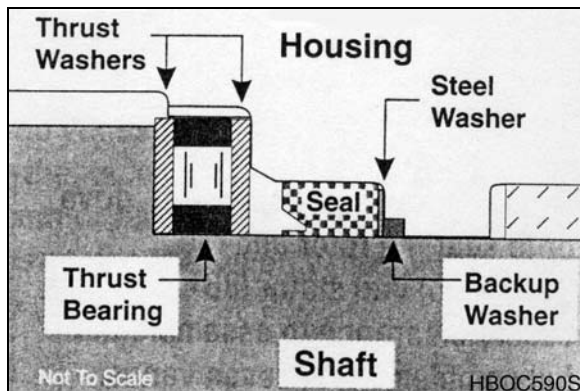

Figure 72
5. On Small Frame, Series MG and MF Torqmotors™ assemble a new backup washer (17) and new seal (16) with the seal lip facing toward the inside of Torqmotor™ (See Figure 72), into their respective counterbores in housing (18) if they were not assembled in procedure 2.